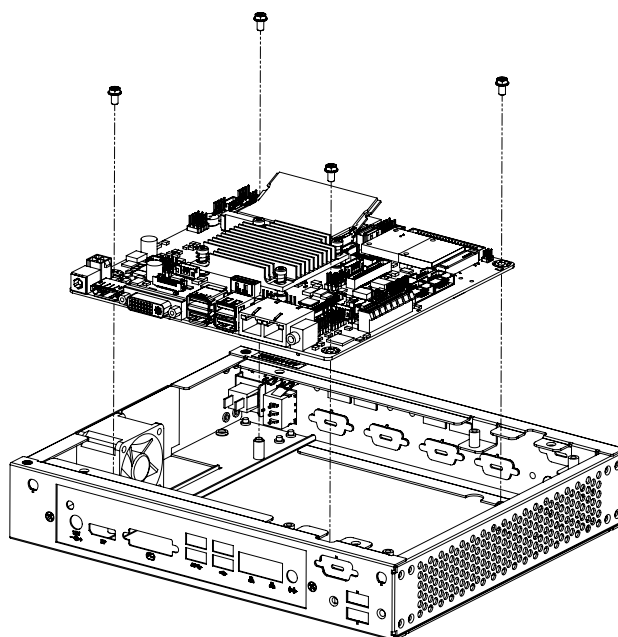

Figure 2.4 Assemble MB into Chassis / 組裝母板 / 組裝主機板
- Figure 2.4 Assemble MB into Chassis / 組裝主板 / 組裝主機板 . 7